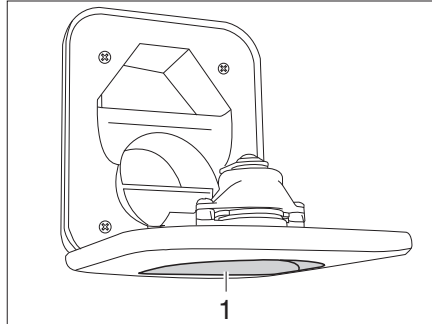

Fig. 156 Fresh water filler neck for toilet
- Open the fresh water filler neck for the toilet (Bild 156,1) above the flap for the Thetford cassette and swivel downwards.